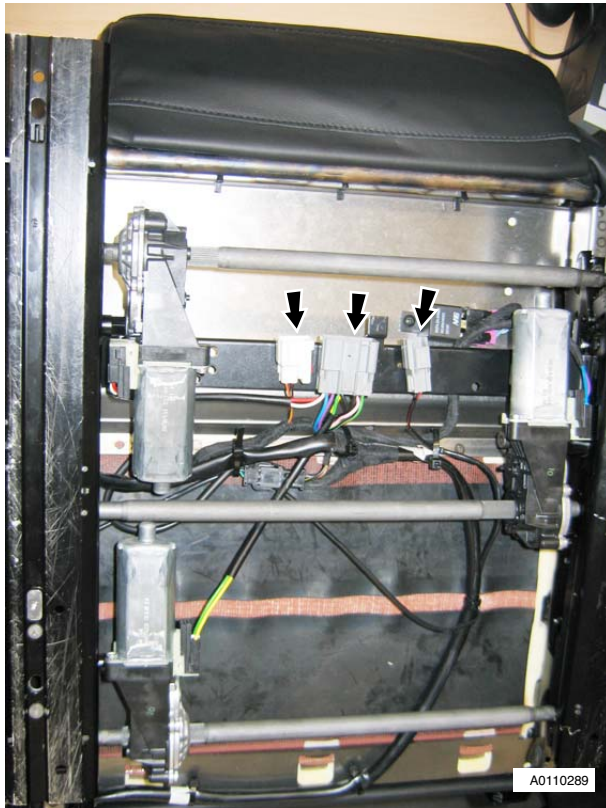

Figure 1
10. Disconnect multiplugs (x3) seat motors (see Figure 1).